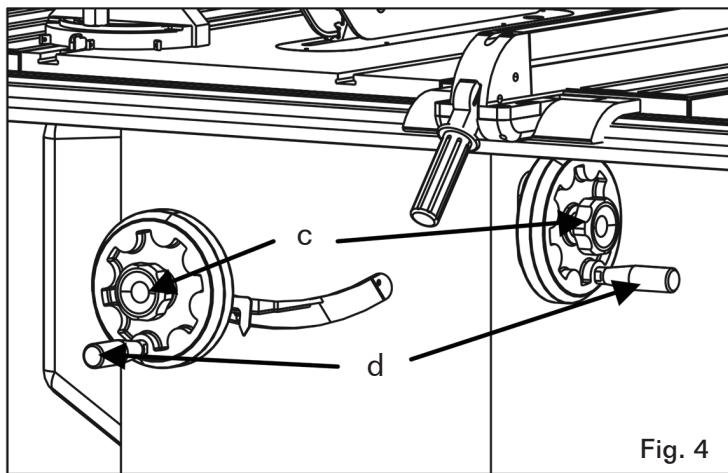

Fig. 4
2. Screw on lock knobs c (Fig.4), to hold wheels in place, then attach silver handles, d (Fig.4) tightening them with the supplied 12mm combination wrench.